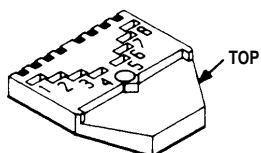

Figure 1
2. Hold the top piece of the plug so that you see the numbers 1 through 8 as shown in Figure 1.